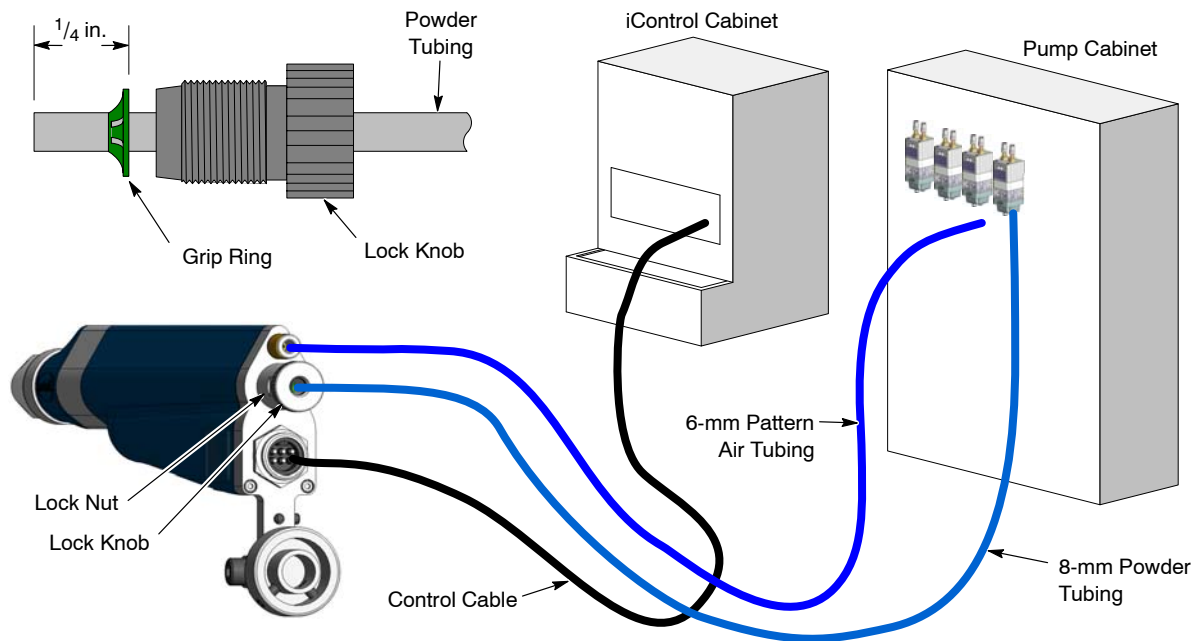

Figure 8 Tubing and Cable Connections
1. See Figure 8. Connect the control cable to the gun and the appropriate receptacle on the iControl cabinet. Tighten the cable nuts securely.